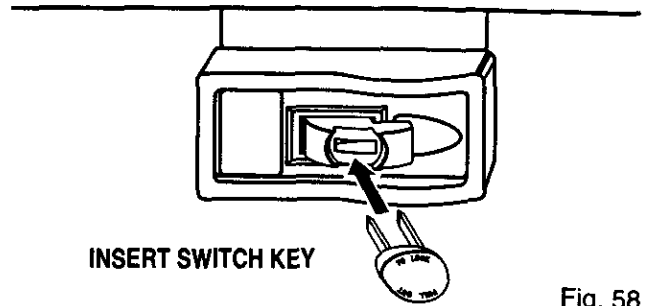

Fig. 58
- Check that the wood is not touching the blade. Insert switch key and lift switch to **ON** position. See *Figures 58 and 59*.